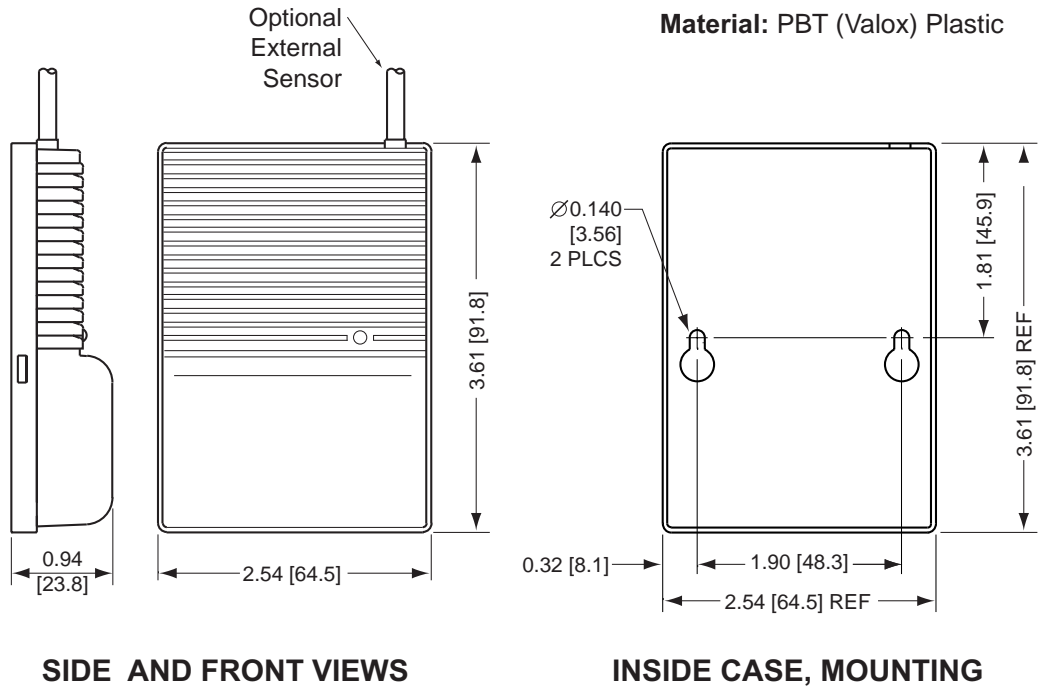

Figure 2.2 Mounting the End Device
- To mount unit to wall. Refer to **Figure 2.2** for mounting dimensions.